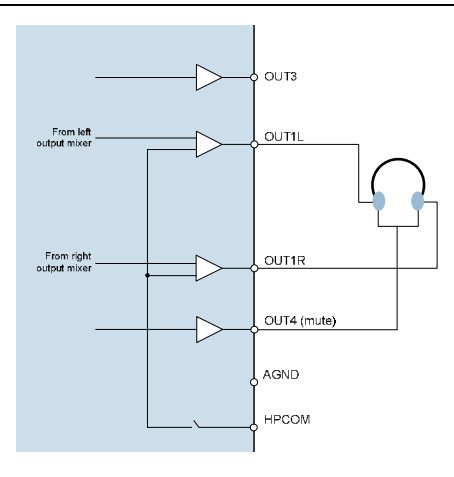

Figure 47 DC-Coupled (Capless) Mode Headphone Drive
2. The DC-coupled configuration illustrated in Figure 47 shows OUT4 (muted) being used as the Ground Return connection. The same capability may alternatively be provided using OUT3.